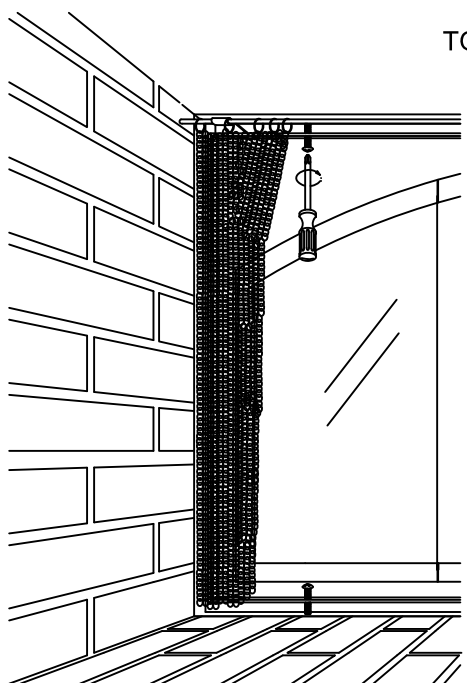

FIG. 1
3. WHILE HOLDING DOOR ONTO THE OPENING, TIGHTEN ONE OF THE TOP ATTACHMENT SCREWS TIGHTLY AGAINST THE METAL OF THE FIREPLACE. TIGHTEN THE OTHER TOP SCREW. (SEE FIGURE 1)